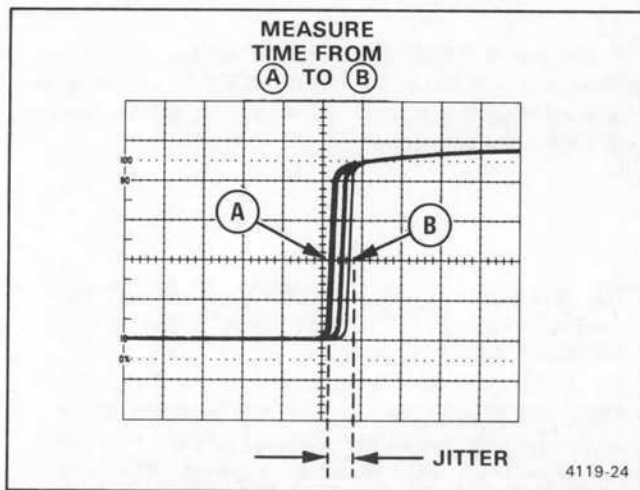

Figure 23. Pulse jitter.
2. Referring to Figure 23, measure the difference between Point A and Point B in divisions and calculate the pulse jitter time using the following formula: